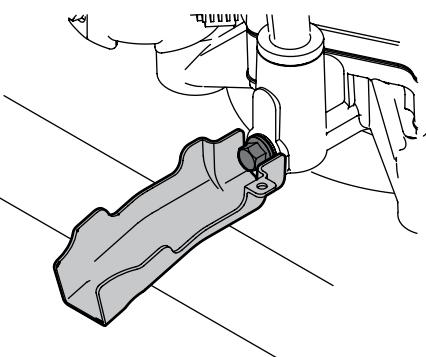

Figure 4-6
- Snap the small end of oil drain sleeve onto the oil sump. See Figure 4-6.